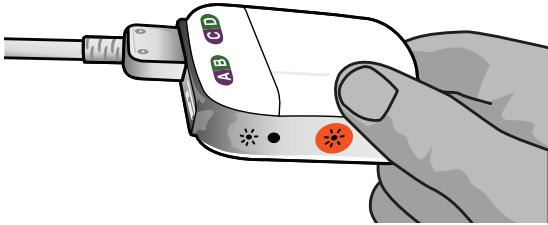

Figure 5: Connection of the 2x8 OR Cable to the External Trial Stimulator 2
3. Connect the OR Cable Extension to the External Trial Stimulator 2 socket labeled "CD" (Figure 5).